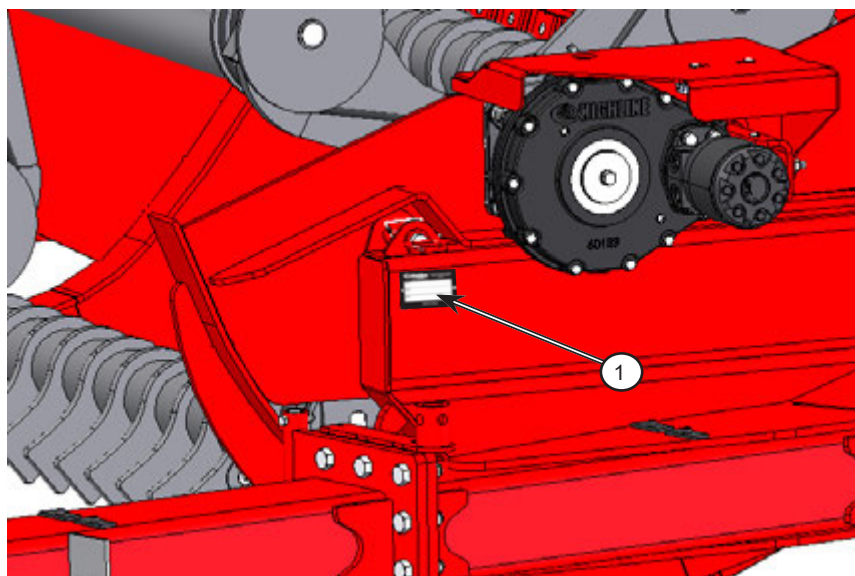

Figure 1.1: Serial Number Plate Location
The serial number is found on the serial number plate (1) attached to the RP800 on the left front frame member, as shown below in *Figure 1.1*.